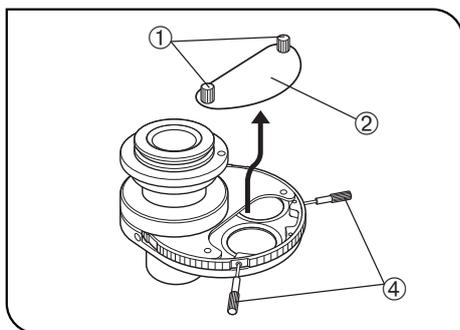

Fig. 36
(Figs. 36 to 40)
- 1. Place the condenser in the orientation as shown in Fig. 36, loosen the detaching screws ① and remove the cover ②.
- 3. Loosen the optical element position centering screws using the optical element centering knobs ④. (Figs. 36 & 37)